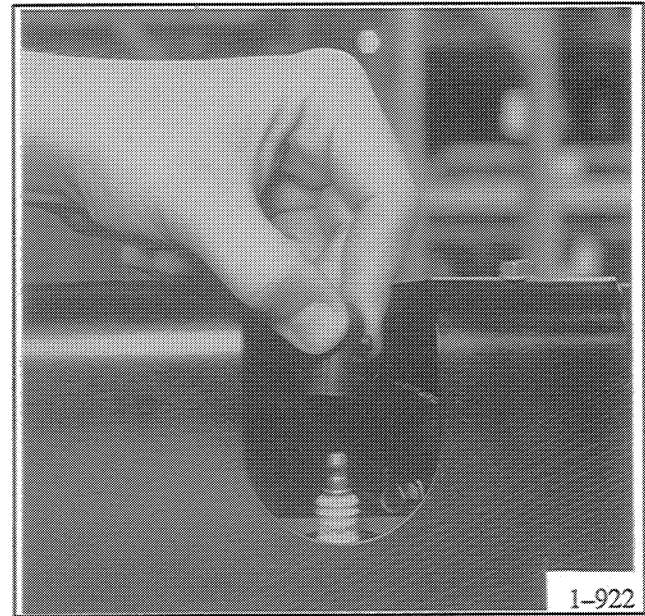

Figure 3–14. Removing Spark Plug Boot
4. Before installing any spark plug, check the gap. See Figure 3–15. The proper gap is attained when the feeler gauge (or wire) passes between the spark plug electrodes. It should pass easily,
5. Use gapping tool to gently bend the side electrode closer together or further apart to set the correct gap. See Figure 3–16. The side electrode must be directly over the area of the center electrode.